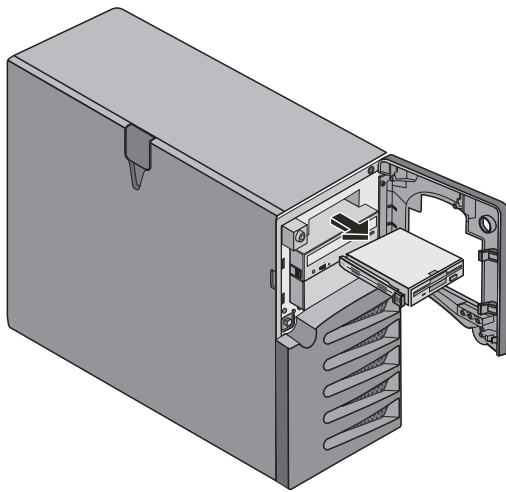
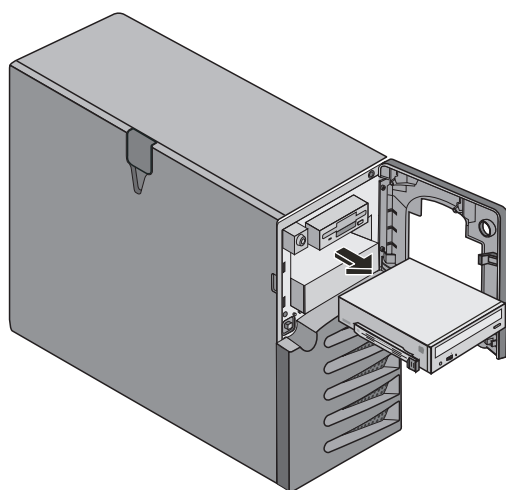

Figure 2-5: Removing flexible disk drive
Figure 2-6: Removing the CD-ROM drive
The flexible disk drive and CD-ROM drive, which are standard on all models of the HP ProLiant ML150 server, occupy shelves 8 and 7 respectively. Refer to Figure 2-5 and Figure 2-6
6. Hold the disk by its sides and gently slide the drive out of the chassis. Refer to Figure 2-5.
5. Press the two latches of the drive inward and, holding the disk by its sides, gently slide the drive out of the chassis. Refer to Figure 2-6.